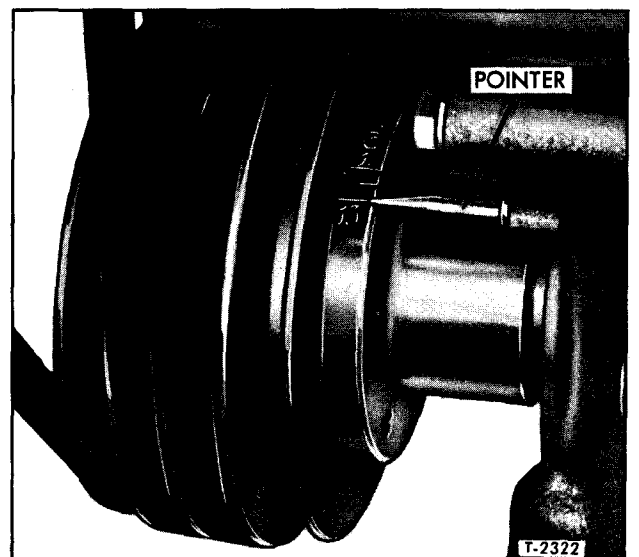

Figure 2—Timing Marks (V6 Engine) (Typical)
1. Figure 2 shows location of timing marks on crankshaft pulley hub of the V6 engines. Connect one lead of a timing light to No. 1 spark plug terminal (front plug on left side) and connect the other lead in accordance with instructions furnished with the instrument.
2. Intermittently operate starter until proper timing mark on crankshaft pulley is aligned with pointer (fig. 2).